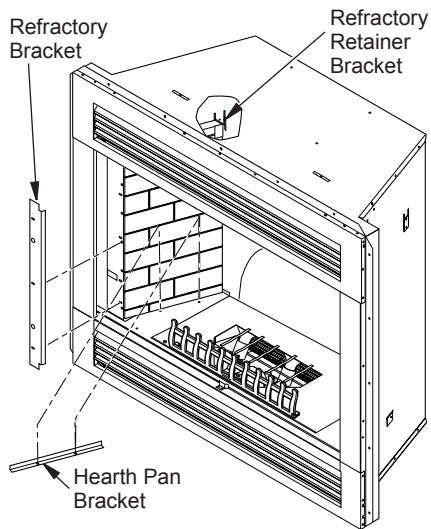

Figure 20 - Installing Brick Panels and Brackets
5. Insert brick panel, beveled edge first, through firebox opening. Tilt and angle top edge into brick retainer until beveled edge contacts imager and panel is flat against firebox (see Figure 20).